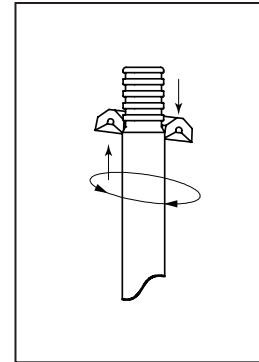

Fig. 12-5
2. Slide male packing expander (D) over stem with flat end toward follower.
4. Carefully install one black "V" ring (C) over end of stem with open part of "V" going onto stem first. The ring will easily fit over grooved portion of stem. To fit ring onto main portion of stem, lean it to one side and turn ring while pressing it onto stem. See Fig. 12-5
5. Install the second black "V" (C) ring followed by the white "V" ring (D) in the same way you installed the first black ring.
6. Slide female packing expander (A) over stem with open "V" groove going onto stem first.